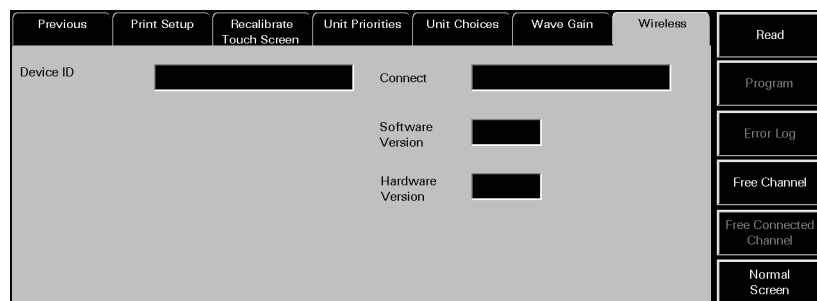

FIGURE 5-1
4. Install two (2) fresh 1.5 V "AA" batteries in the Telepack. Screw on the battery cap.
7. Press the Wireless tab. The Programming Menu will be displayed (shown in FIGURE 5-1).